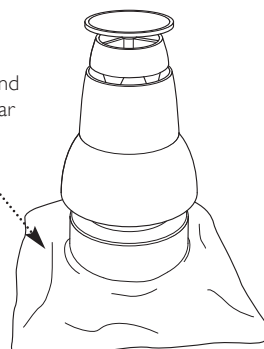

Fig. 40
19. Cement over the closure plate and air duct collar to a depth of approximately 100mm. Consideration should be given to the potential accumulation of snow in this area, and the possibility of it blocking the air inlet (Fig. 40).